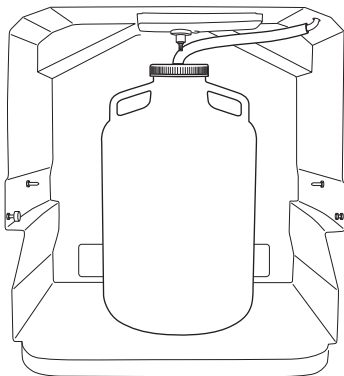

Figure 2-6 One 20 liter PE bottle configuration with discharge tube through the bottle cap
6. Feed the discharge tube into the hole (see Figure 2-6).